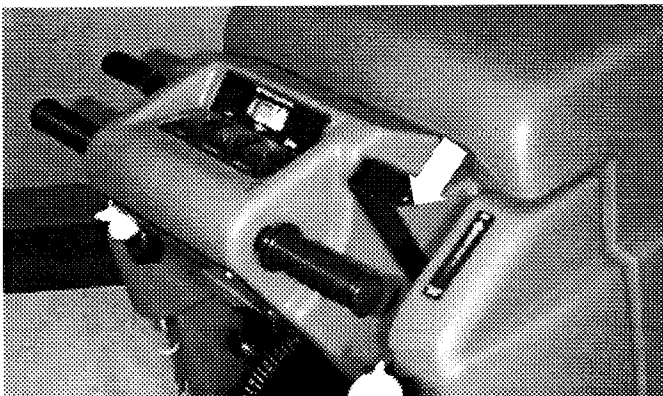

FIG. 9
- Shut off solution flow, pull completely back on solution flow lever to shut off. (Figure 9)